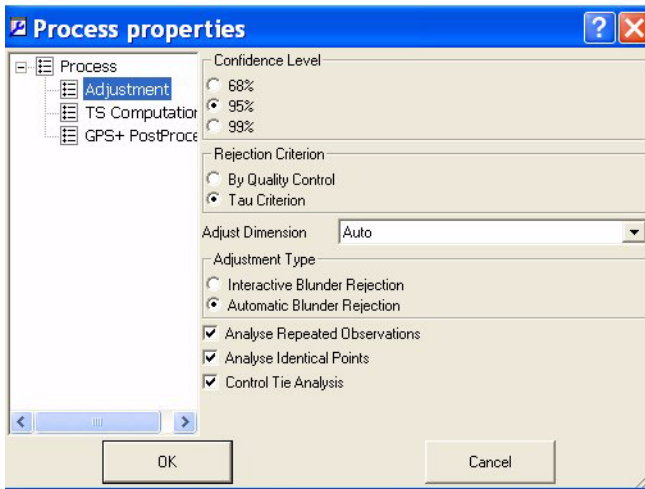

Figure B-5. Set Processing (Adjustment) Properties
- Select blunder and analysis settings for processing points, and executing tests, during an adjustment (**Process ► Process Properties**) (Figure B-5).